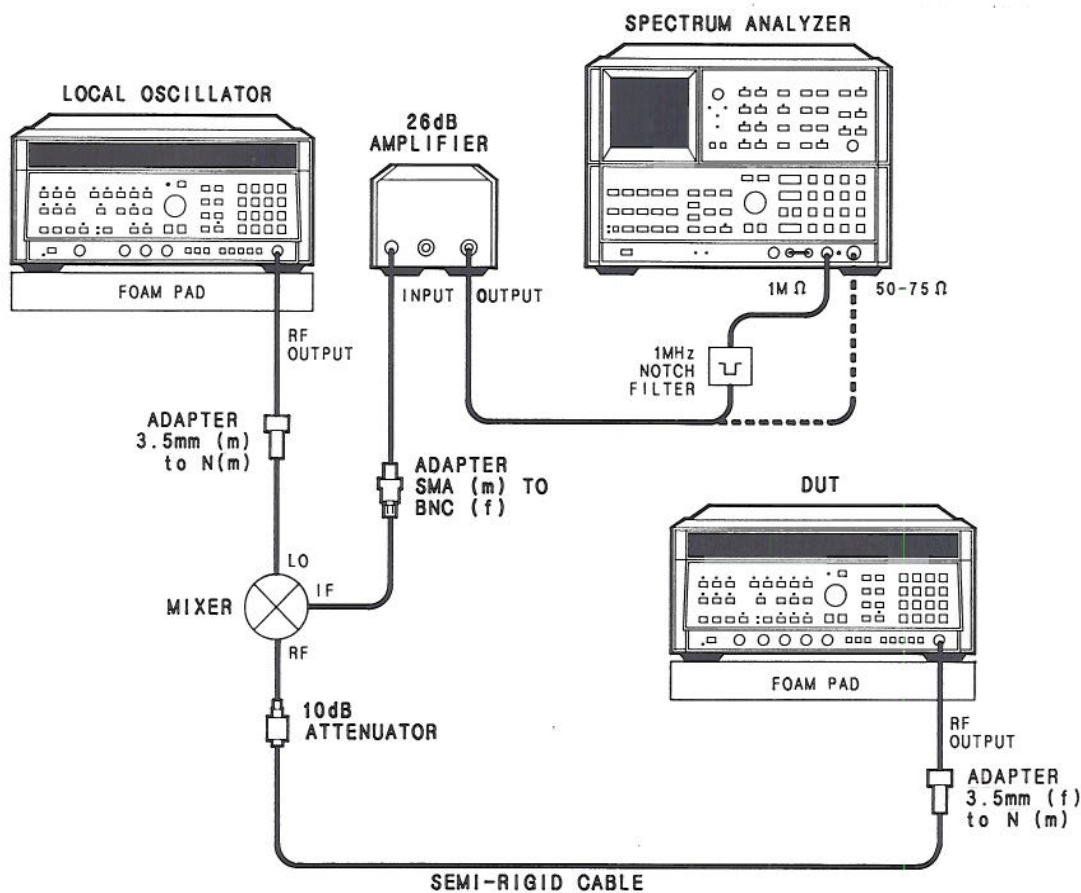

Figure 4-9. Single Sideband Phase Noise Test Setup
1. Connect equipment as shown in Figure 4-9 with the amplifier connected directly to the spectrum analyzer 50 Ohm input.
The foam pads shown in Figure 4-9 are required to isolate the DUT and LO from mechanical vibrations which could induce phase noise.
17. Connect 1 MHz notch filter as shown in Figure 4-9. Select 1 MOhm input impedance on the spectrum analyzer.
23. Connect equipment as shown in Figure 4-9 with the amplifier connected directly to the spectrum analyzer 50 Ohm input. Return the spectrum analyzer to 50 Ohm input impedance.
32. Connect the equipment in Figure 4-9 with the 1 MHz Notch Filter connected. Select the 1 MOhm input impedance on the spectrum analyzer.